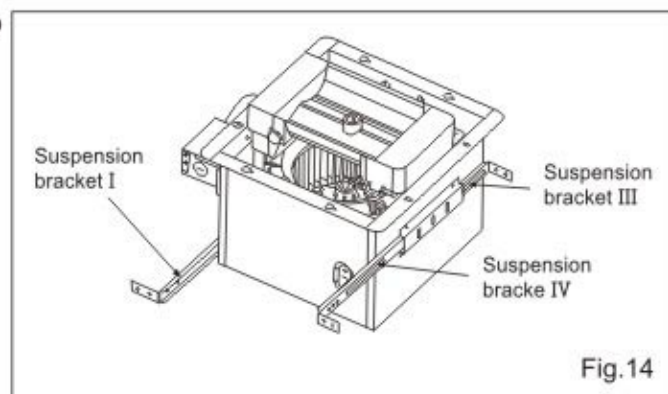

Fig.14
2. Insert the suspension bracket into bracket cover of adaptor side and the back of the fan body. (Fig.14)